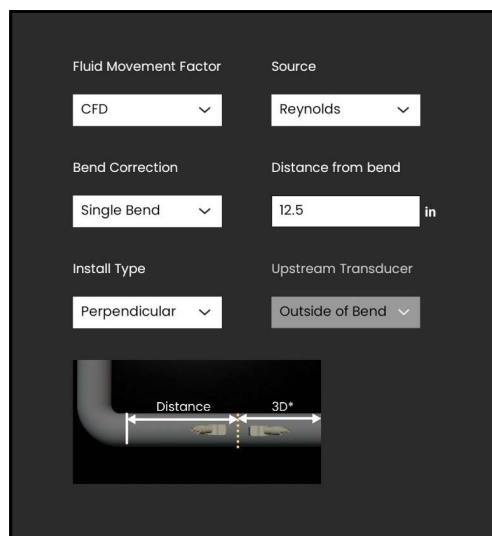

Figure 100: Upstream Transducer Option Being Greyed Out
8. UPSTREAM TRANSDUCER is the location of the upstream transducer relative to the bend. The option for UPSTREAM TRANSDUCER is greyed out if the install type of PERPENDICULAR is selected, as shown in *Figure 100*.